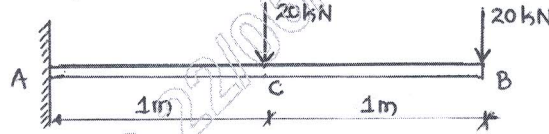

Fig.Q.3(b)
- b. A cantilever of length 2m carries a point load of 20kN at the free end and another load of 20kN at its centre. If $E = 10^5 \text{ N/mm}^2$ and $I = 10^8 \text{ mm}^4$ for the cantilever, then determine by moment-area method, the slope and deflection at the free end. Refer Fig.Q.3(b). (08 Marks)